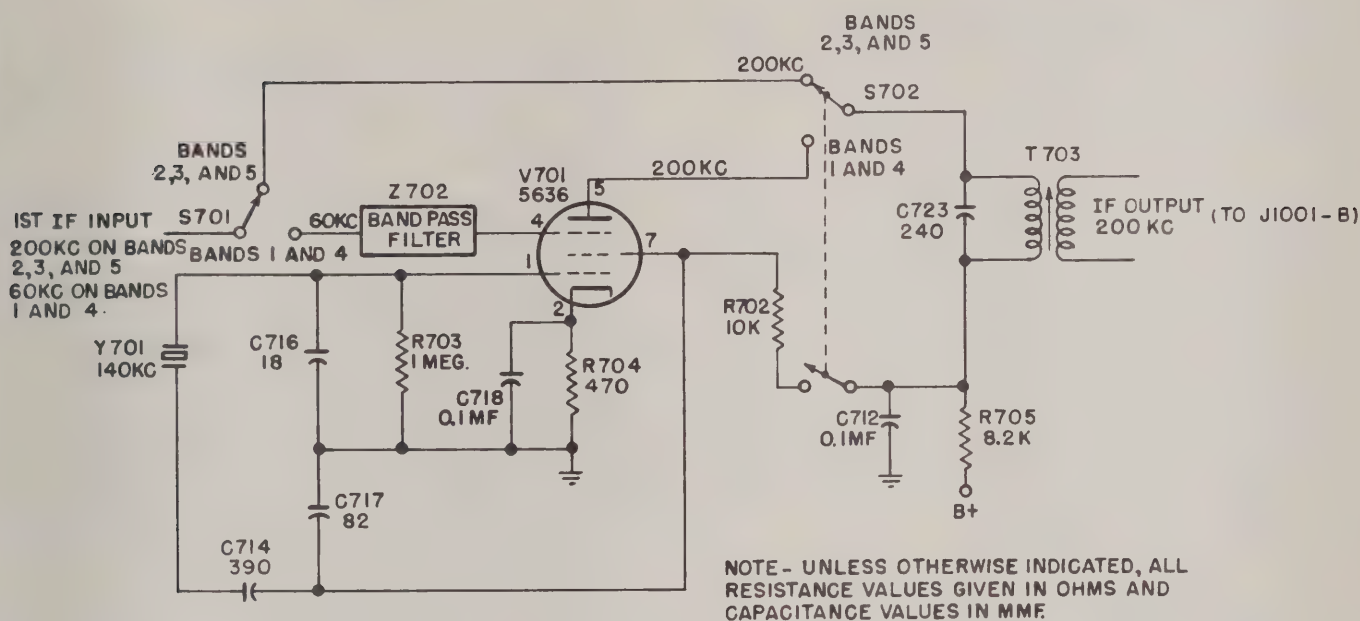

Figure 2-2. First I-F, Simplified Schematic
(1) FIRST I-F (AN/FRR-21).—Refer to figure 2-2. As determined by the mixer output, V151, the first intermediate frequency input is 60 kilocycles on bands 1 and 4 and 200 kilocycles on bands 2, 3, and 5.
(2) FIRST I-F (AN/FRR-22).—See figure 2-2 for similarity of circuit connections. As determined by the mixer output, V351, the first intermediate frequency input is 1600 kilocycles on bands 4 and 5, and 200 kilocycles on bands 1, 2, and 3.
(3) FIRST I-F (AN/FRR-23).—See figure 2-2, for similarity of circuit connections. As determined by the mixer output, V151, the first intermediate frequency input is 1600 kilocycles on all bands.